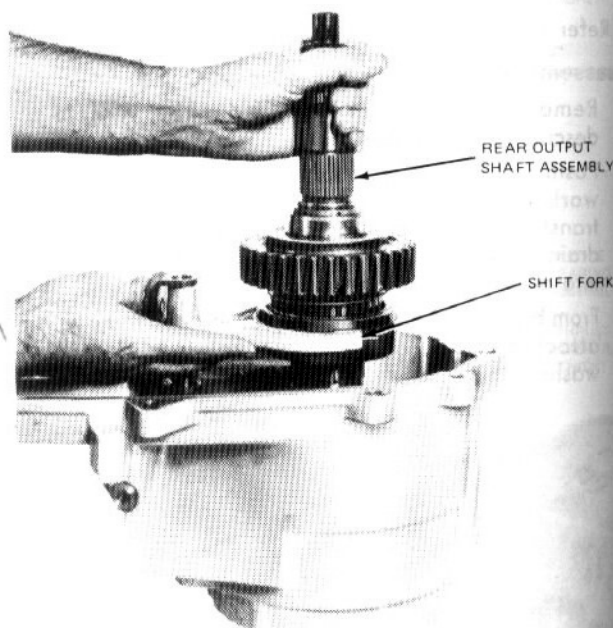
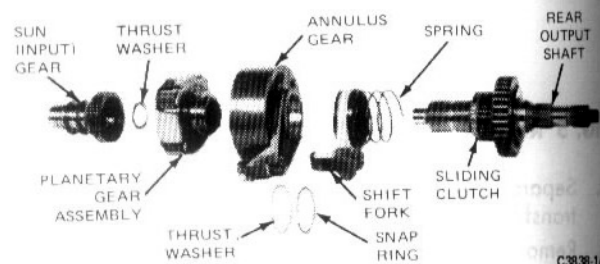

FIG. 11 Removing Rear Output Shaft Assembly
FIG. 12 Rear Output Shaft, Input shaft and Gear Transfer Components
12. Position the front case half as shown in Fig. 11 and lift out the rear output shaft, sliding clutch, clutch shift fork and clutch shift spring from the case (Fig. 12).